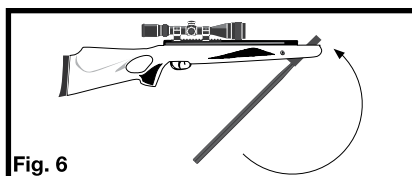

Fig. 6
- Move the barrel back to its original position by pushing the barrel up until it locks (Fig. 6).